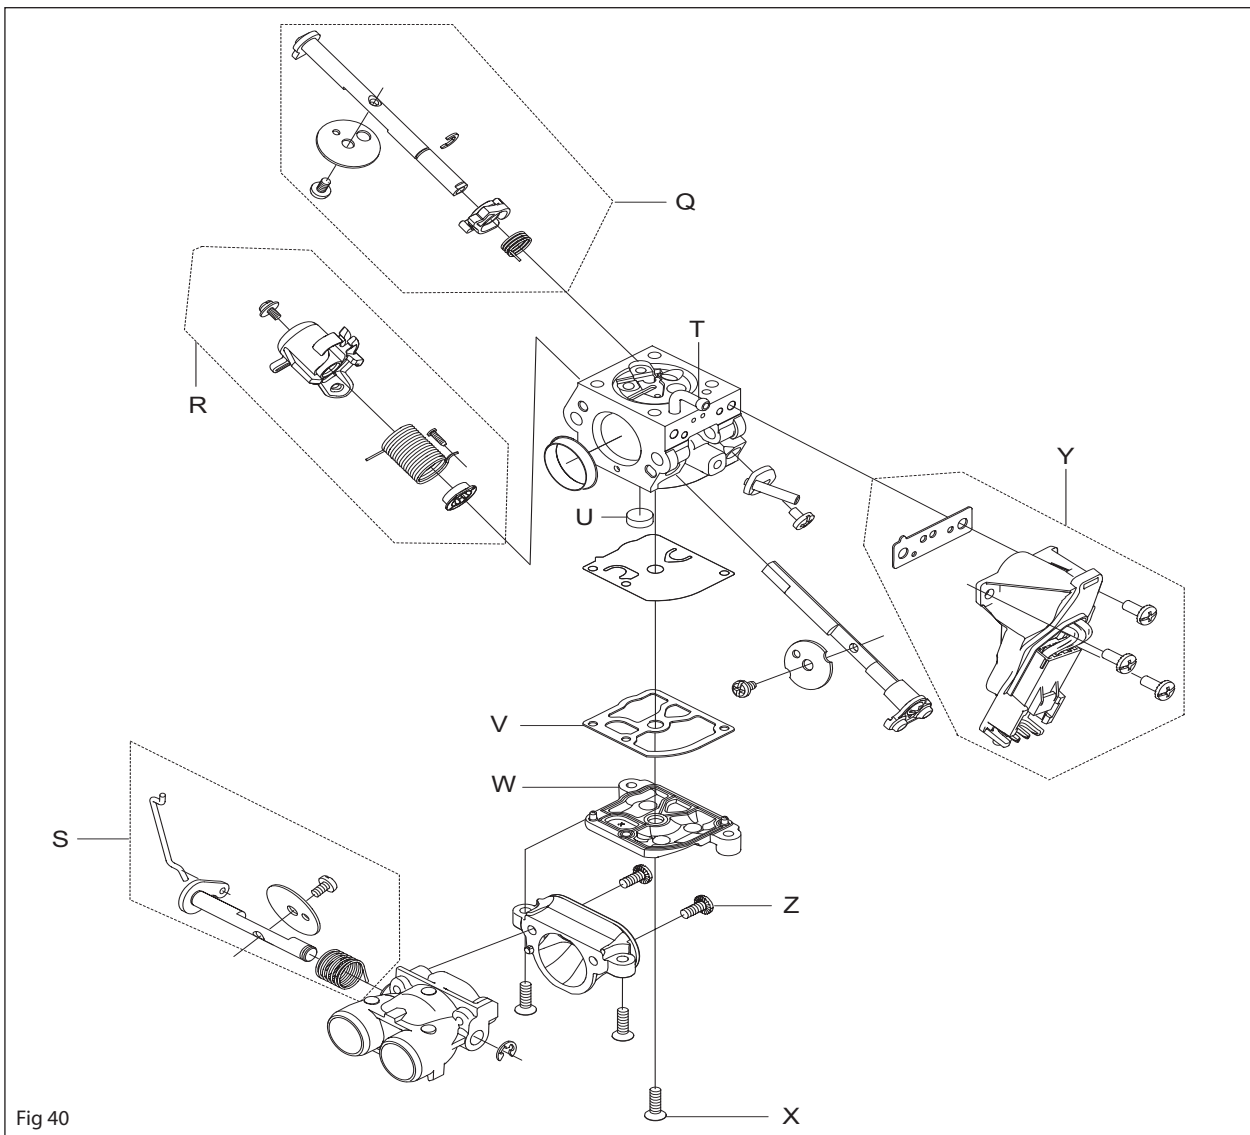

Fig 40
To access the pump diaphragm and the inlet screen, first remove the air throttle housing from the pump cover by unscrewing the two screws Z. Then remove the pump cover. See figure 40.
Use a needle or similar device and carefully pull up the fuel screen U. See figure 40.
If necessary, dismantle throttle valve R and choke valve S and air valve Q, and remove the shafts with lever arms and springs (see figure 40). Before removing the screws attaching the valves, cut off the ends of each screw.
If necessary, dismantle the AutoTune Y unit. See figure 40.
4. That the fuel screen U is intact and clean. See figure 40.
5. That the inlet manifold T is intact. See figure 40.
2. Fit the fuel screen U using the handle of a small screwdriver. See figure 40.
3. Fit the gasket V in the carburettor as well as the holder W. Screw in place screw X as outlined in figure 40.
4. See figure 40 on how to assemble the AutoTune unit Y with gasket.